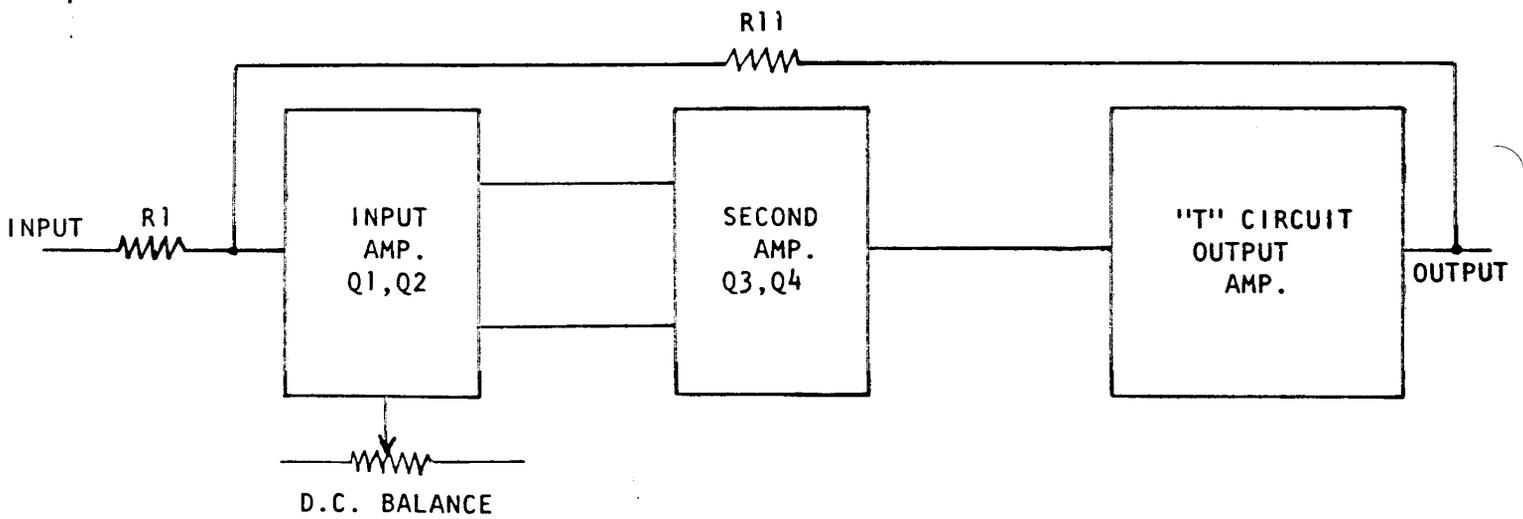

Figure 3-2 POWER AMPLIFIER BLOCK DIAGRAM
3.2.2 DRIVING STAGE - Figure 3-2 shows the complete amplifier (one stereo channel) and the low-level driving stage. The latter is a two-stage differential DC amplifier having a voltage gain of 1200. The frequency response of the driving stage is far greater than 100K Hz, so that the single factor limiting the frequency response of the complete amplifier is still Q5 and Q6. The closed loop gain of the complete amplifier is essentially  $R_{11}/R_1$ , or approximately 25. The feedback factor, therefore, is about 50.